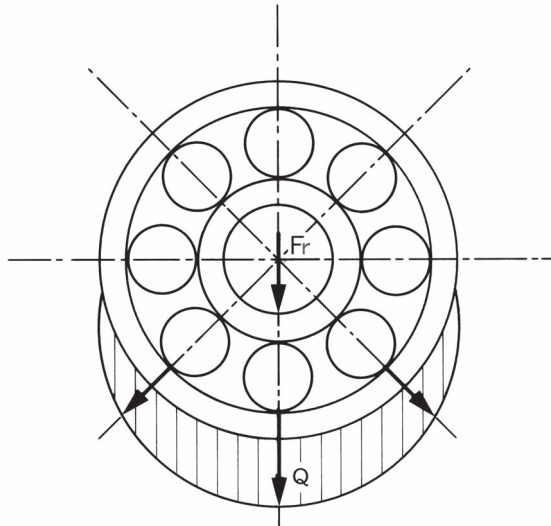

Figure 13-1
As shown in Figure 13-1, when the radial load (F_r) is applied, the maximum load (Q) applied to the ball is